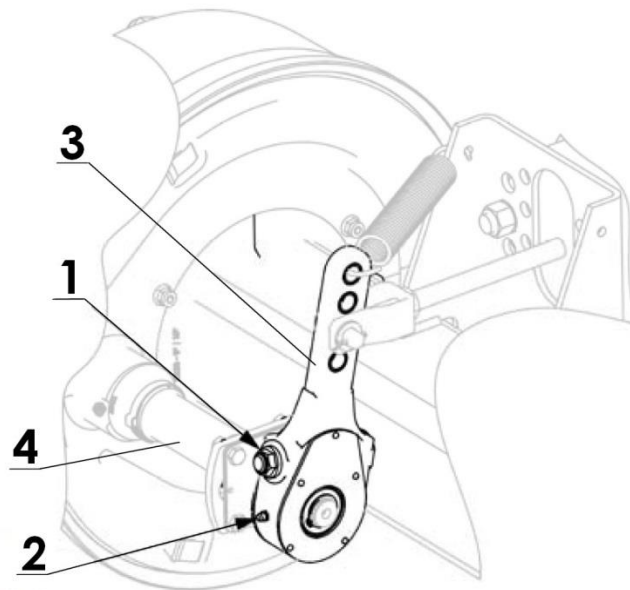

Figure 22. Brakes regulation
Brake adjustment involves changing the position of expander arm (3) (fig. 22) with respect to the expander roller (4). To do so, turn the adjusting screw (1) until you hear two clicks in the adjusting mechanism.